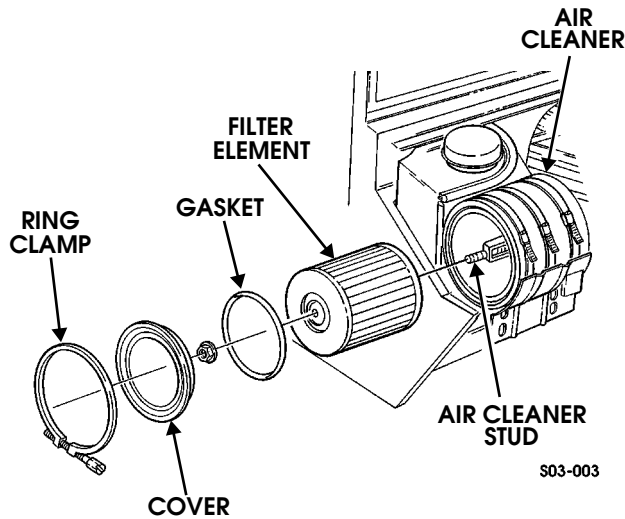

Figure 3-21: Air Cleaner Filter Element Removal/Installation
1. Remove ring clamp, cover, and gasket from air cleaner (Figure 3-21).
1. Slide filter element onto air cleaner stud and install nut and washer. Tighten nut and washer to 18-35 lb-in. (2-4 N•m) (Figure 3-21).